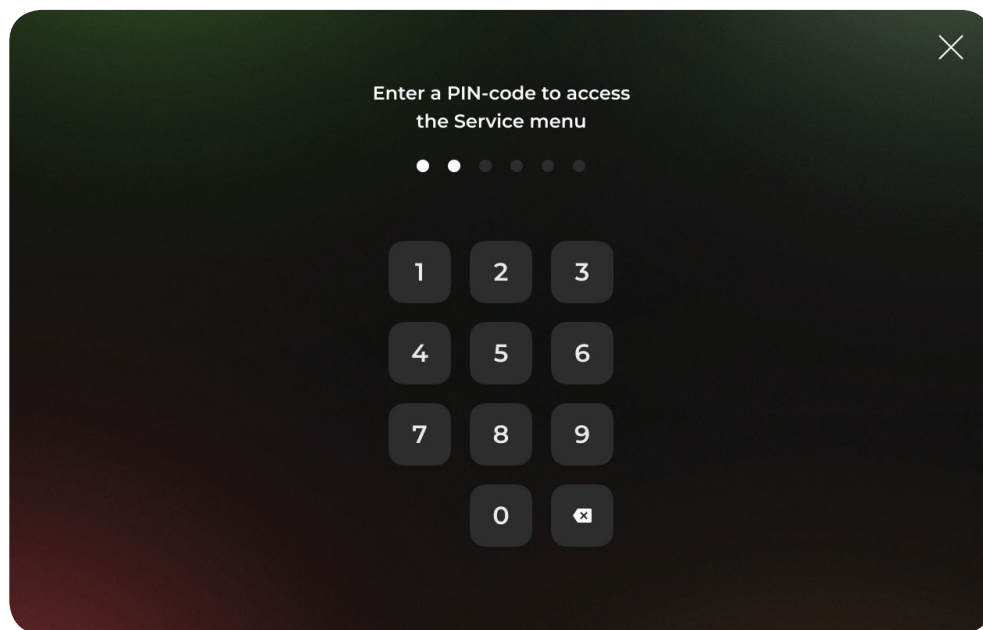

**Fig. 6** Device power up
Turn on the station after assembly and installation. Plug the power cord (included in the package) into the connector located on the back panel (#1, Fig. 6). Connect the station to the power outlet.
1. Toggle the power switch into the ON position (#2, Fig. 6);
2. Press the power button (#3, Fig. 6);
1. Press the power button (#3, Fig. 6);
3. Toggle the power switch into the OFF position (#2, Fig. 6).